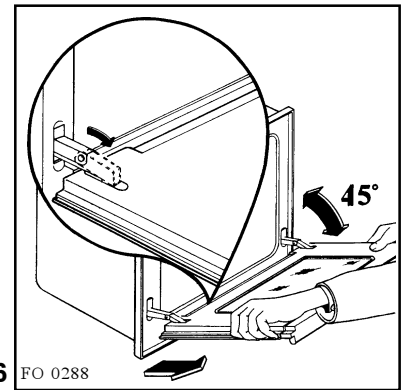

Fig. 6 FO 0288
- find the hinges linking the door to the oven (fig 6);
- unlock and turn the small levers located on the two hinges (fig. 6);
- gently pull the oven door off its site (fig. 6);